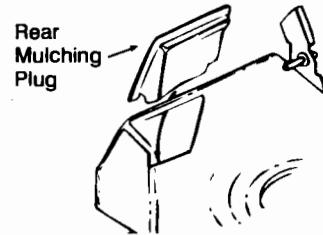

Figure 12
- Lift the rear discharge door on the mower, and remove the rear mulching plug. See figure 12.
Lift the rear discharge door and install the rear mulching plug. See Figure 12.
To remove the mulching kit, simply lift up rear discharge door and remove the rear mulching plug. See figure 12. Then attach the grass catcher (optional equipment).